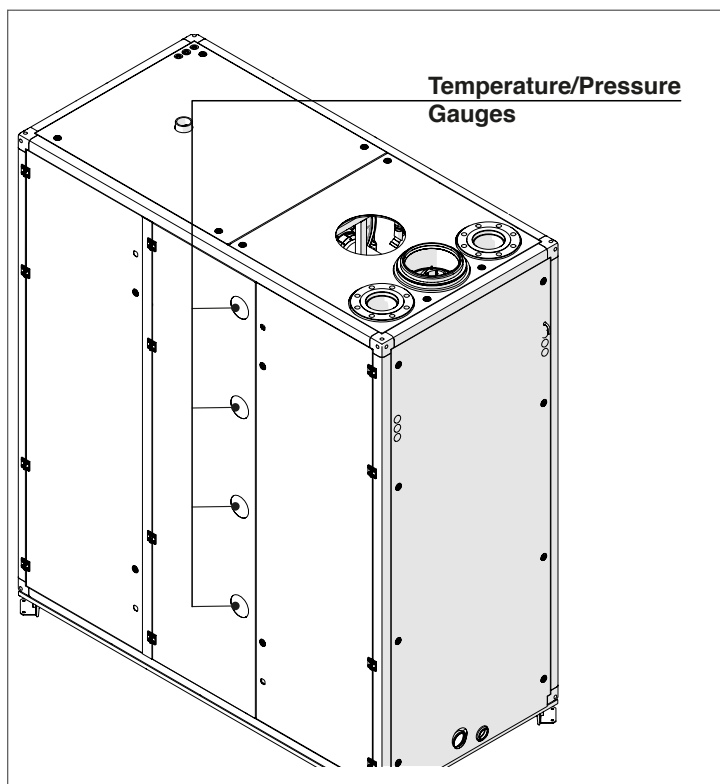

Fig. 50 Temperature/Pressure Gauge location
- Open the fill valve and proceed to fill the heating system and boiler until the pressure gauge (shown on Fig. 50), reads the pressure for which the heating system is sized. The heating system water pressure must be higher than 7.5 PSI.
Open the filling valve and check the pressure on the temperature/pressure gauge of Fig. 50.